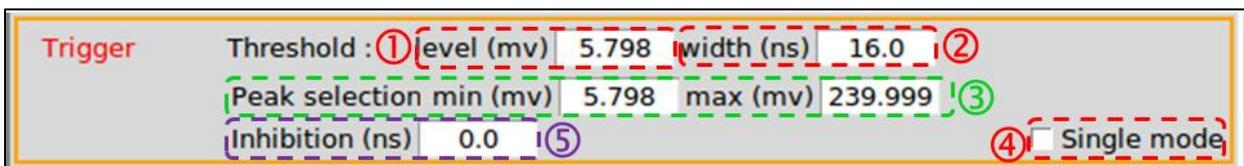
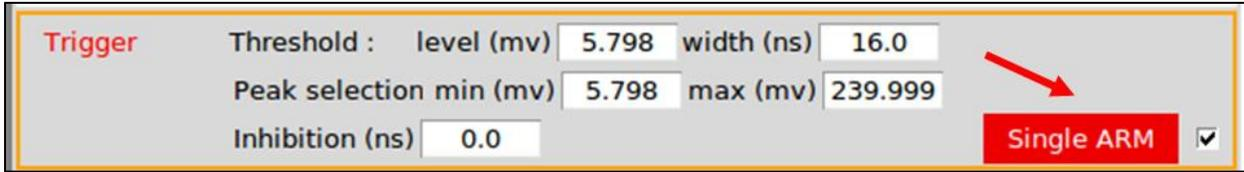

Figure 20: parameters of the threshold discriminator.
Figure 22: "Single Arm" button
All input pulses of the Trigger module, whose signal has crossed the threshold “Level” (Figure 20 ①) on rising edge and remains above this level during at least the duration “width” (Figure 20 ②), are detected. But only pulses with an amplitude between [min; max] during the first 64 nanoseconds (“Peak selection” parameter in Figure 20 ③), are retained.
By checking “Single mode” (Figure 20 ④), the “Single Arm” button appears (Figure 22). A cursor click on this button will trigger a single pulse detection.
Finally, the experimenter can adjust the minimum duration between two detections with the "Inhibition" parameter (Figure 20 ④), in order to ensure dead time duration (cf. § III.I). This duration must be wider than the pulse width, otherwise it has no impact. It is a multiple of 8 ns between 0 ns and 17 s.